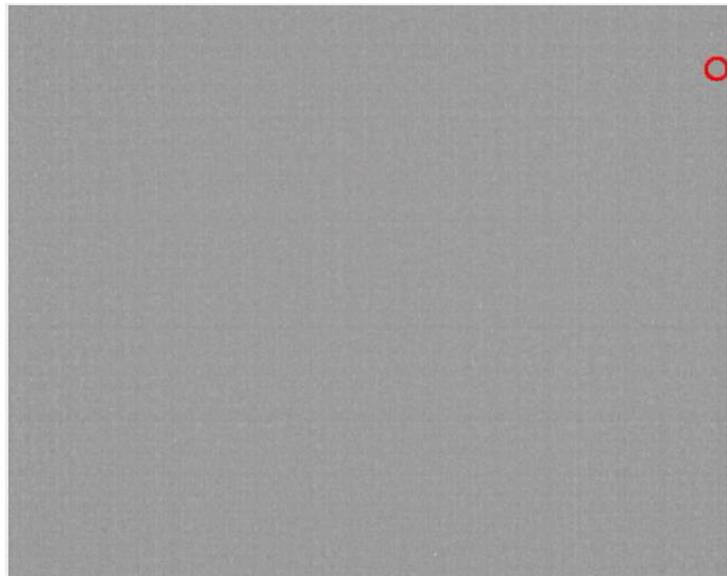

Figure 31: “Table-Switch Desired” Symbol (Factory-Default)
- Table-Switch Desired: By factory default, the symbol shown in Figure 31 is displayed whenever the “Table-Switch Desired” flag is set. (See Section 6.12.3 and Section 7.6.)
- **Table Switch Desired**: When operating in manual or external FFC mode, the *Table Switch Desired* flag is set when the camera is operating outside the range of the current NUC table. (See Section 5.2 for more details.) When in automatic FFC mode, this flag is never set because instead an automatic table switch takes place. By factory default, a red circle will appear in a location which circumscribes the *FFC Desired* symbol whenever the *Table Switch Desired* flag is set. (See Figure 31 in Section 6.8.)